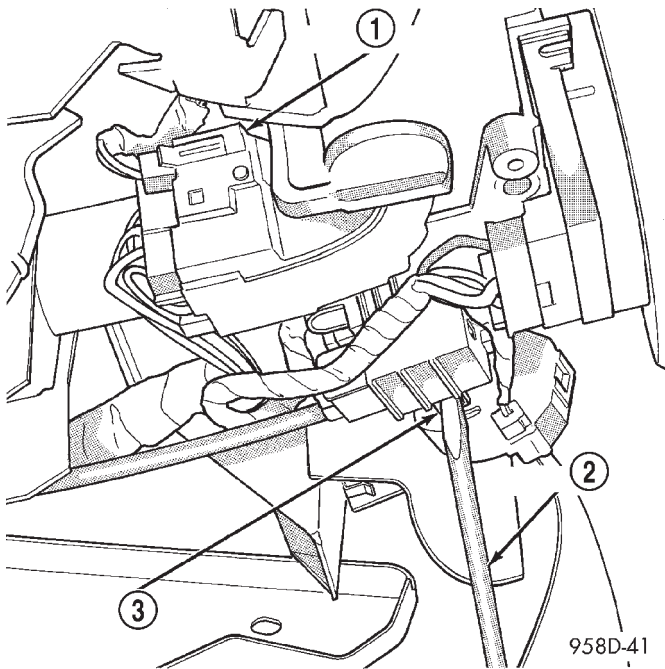

Fig. 23 Lock Cylinder Removal
(12) Place key cylinder in RUN position. Depress lock cylinder retaining tab and remove key cylinder (Fig. 23).